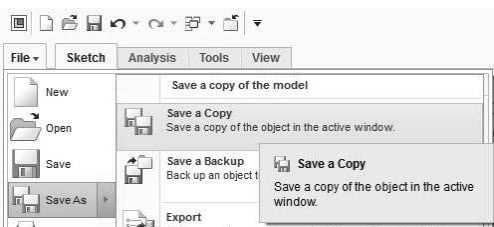

Figure 3-58 Save a Copy
Step 22: With sketch “exercise1a” visible on the screen, *select* **File>Save As>Save a Copy**. See Figure 3-58.